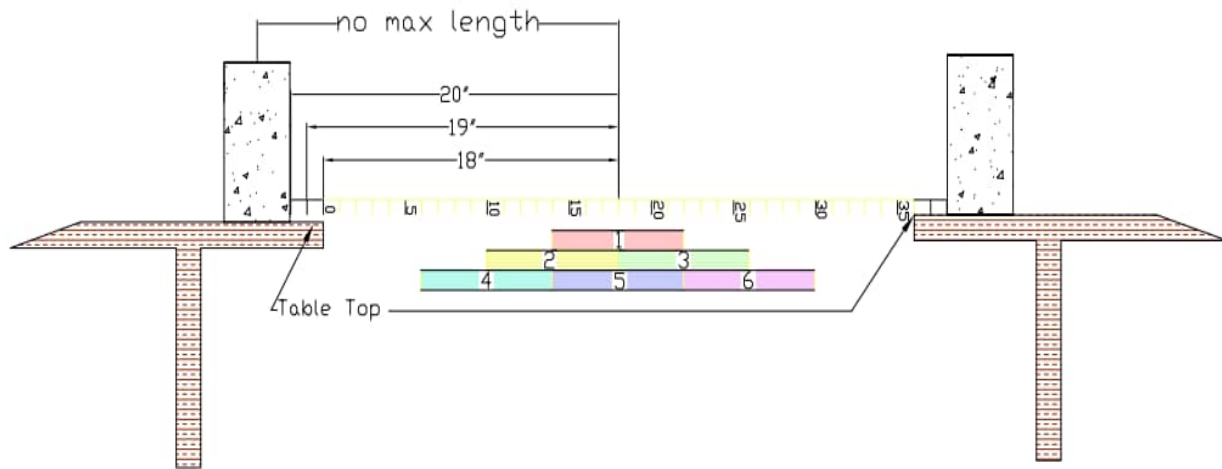

Figure 7: Possible Loading Positions
4. The roadway/loading surface must be provided at all potential wheel support locations (refer to Figure 7). Since the truck that is loaded has "wheels" that are each 2" wide, the roadway shall have enough material to prevent the wheel from falling through. There should not be any obstructions that would prohibit the truck from "driving" across the bridge span.
2. The truck will be placed on the loading surface at a point that will be determined by the roll of a die, which will take place at the time all bridges are received (see Figure 7). The random point will remain the same for all teams. A load transfer bar will be placed across the top of the truck with chains connected at each end extending downward to connect to a loading platform beneath the structure. Volunteers will test each structure by placing the supplied weights onto the loading platform until failure. All bridges will be checked to assure the crossbar will fit prior to the competition and if the truck needs to be shifted, a deduction will be assessed.
4. The loading apparatus (truck + loading platform) must be capable of being supported on the loading surface (roadway) as shown in the diagram. This means that your structure **MUST** have enough roadway surface for the truck to be placed at one of the six locations along span (see Figure 7), but each bridge does not need a continuous surface. The roadway should be reasonably level (some arch is permitted) from one end of the bridge to the other without obstruction. Bridges with roadways that have excessive slope causing the truck to slide off of the bridge will not be aided in the loading process and tested as best possible, with a deduction.